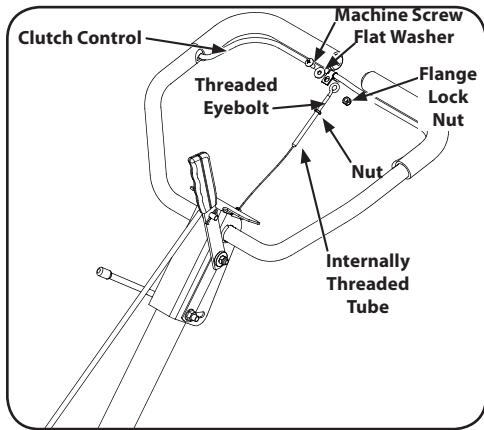

Figure 3-5
- Remove the machine screw, flange lock nut and washer from the clutch control. See Figure 3-5.
- Thread the eyebolt and nut removed earlier into the internally threaded tube at the end of the cable. Thread engagement should be about $\frac{3}{4}$ ". Tighten the nut against the tube at the end of the cable. See Figure 3-5.